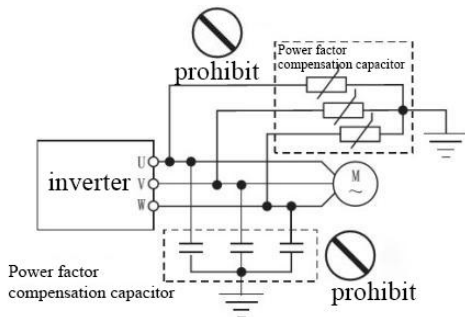

figure 1-3
- Since the output voltage of the inverter is a PWM pulse wave, please do not install capacitors or surge current absorbers (such as varistor) at its output end, otherwise it will cause the inverter to trip or even damage the power components. If they are already installed, please be sure to remove them. See Figure 1-3 .